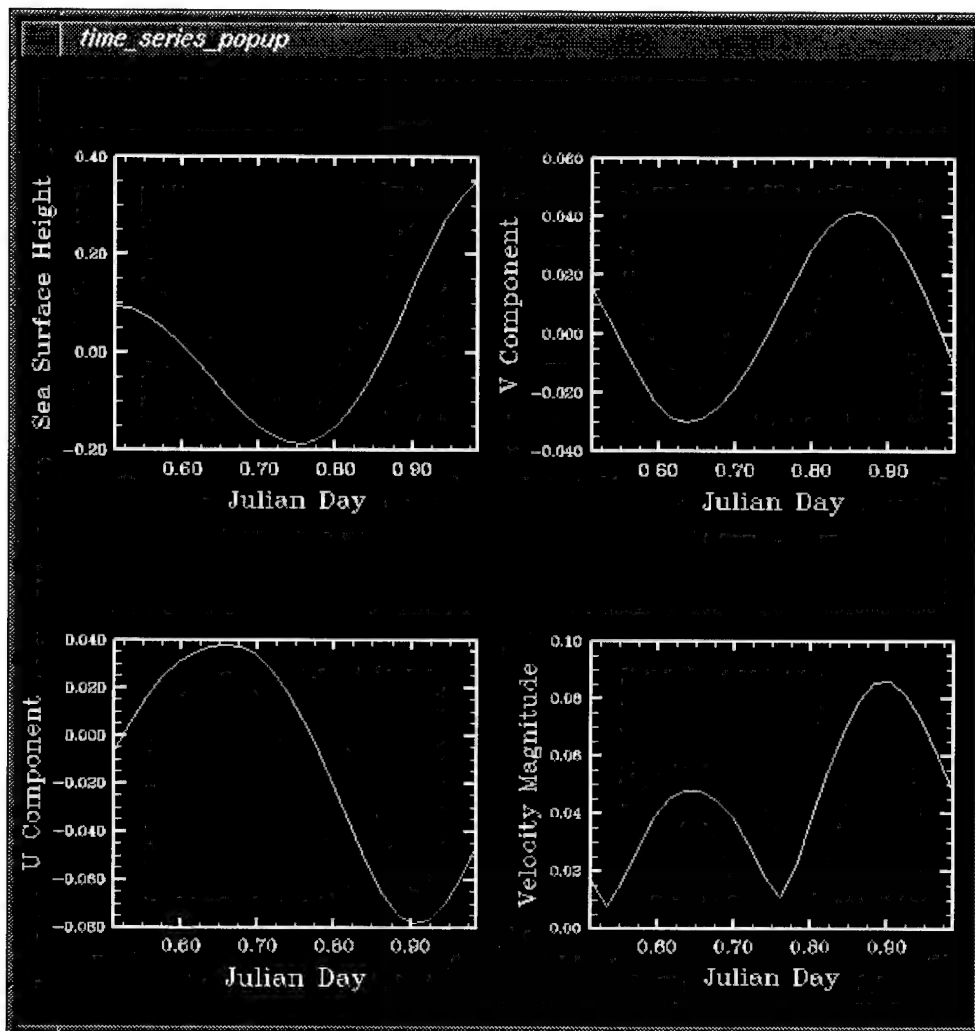

Figure 29 – The time-series pop-up window in the Post-Processor
3. Click on the chosen station with the middle mouse button to display the time-series at a particular saved location, which are marked with yellow asterisks. This pops up a time-series window (Figure 29) which displays the time-series of the selected parameters. If no time-series location has been saved, a blank window appears with the 'no time series file' message in the 'Remark' box in the 'Time Series Dialog' window. To display time-series of another location, simply click on another saved location asterisk with the middle mouse button and the same window displays a time-series of the selected location.